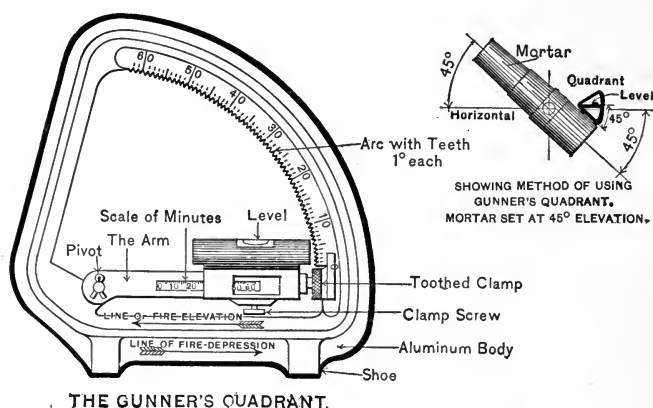

FIG. 67.
A. It is used principally in giving elevation to mortars by first setting the movable arm such that the knife-edged tooth engages in an even-degree mark on the rack, and by moving the sliding level to read the exact number of minutes. Then it is placed on its seat at the breech, being careful to see that the arrow points in the direction of the line of fire, and by elevating or depressing the piece until the bubble comes in the middle the mortar or piece will be set at the elevation set on the quadrant. (See Fig. 67.)